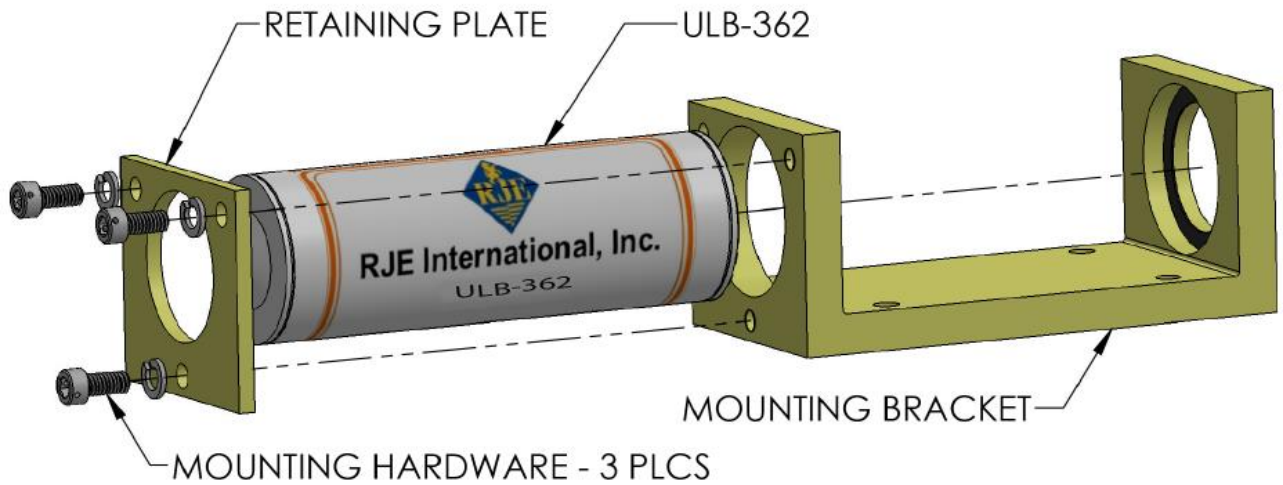

Figure 3-3 Installing the Beacon into the Mounting Bracket
5. Slide the beacon into the bracket as shown in Figure 3-3. Rotate the beacon until the battery date is visible and secure it in place with the end plate and the three drilled socket head cap screws.